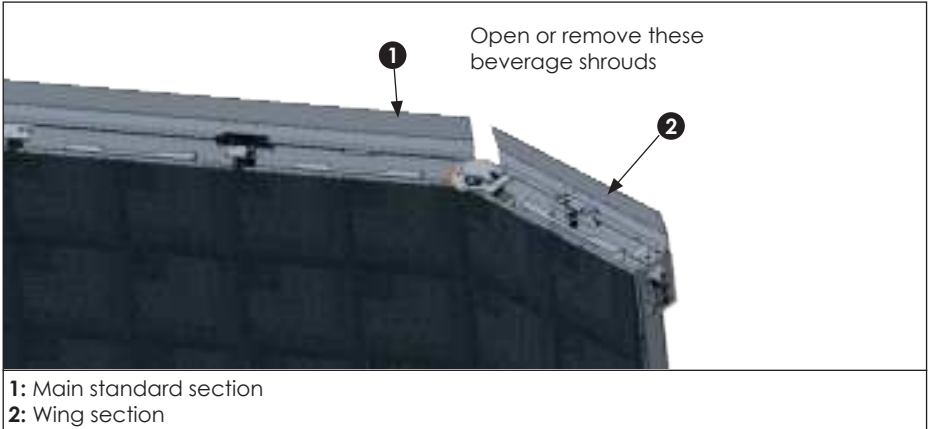

Figure 16: Open Beverage Shrouds
1. Open the wing beverage shroud and adjacent main standard sections' beverage shrouds. Refer to **Figure 16**.